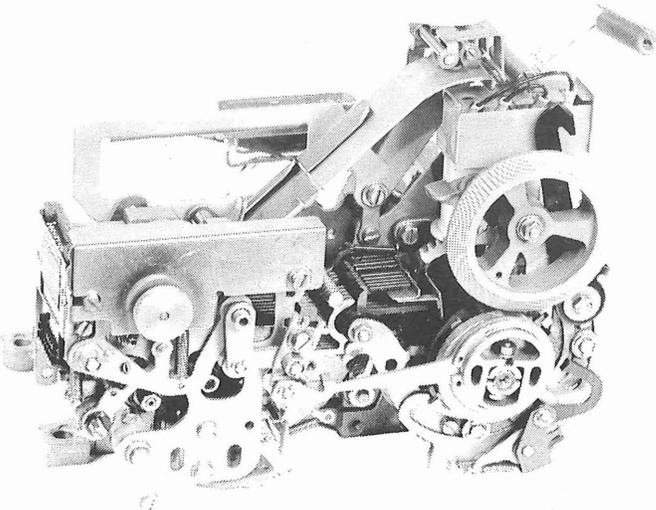

Figure 3 - Nontyping Reperforator
(1) Nontyping Reperforator: This electro-mechanical receive-only unit fully perforates 8-level tape. It is equipped with the off-line backspace and manual interfering tape feed-out features. See Figure 3.